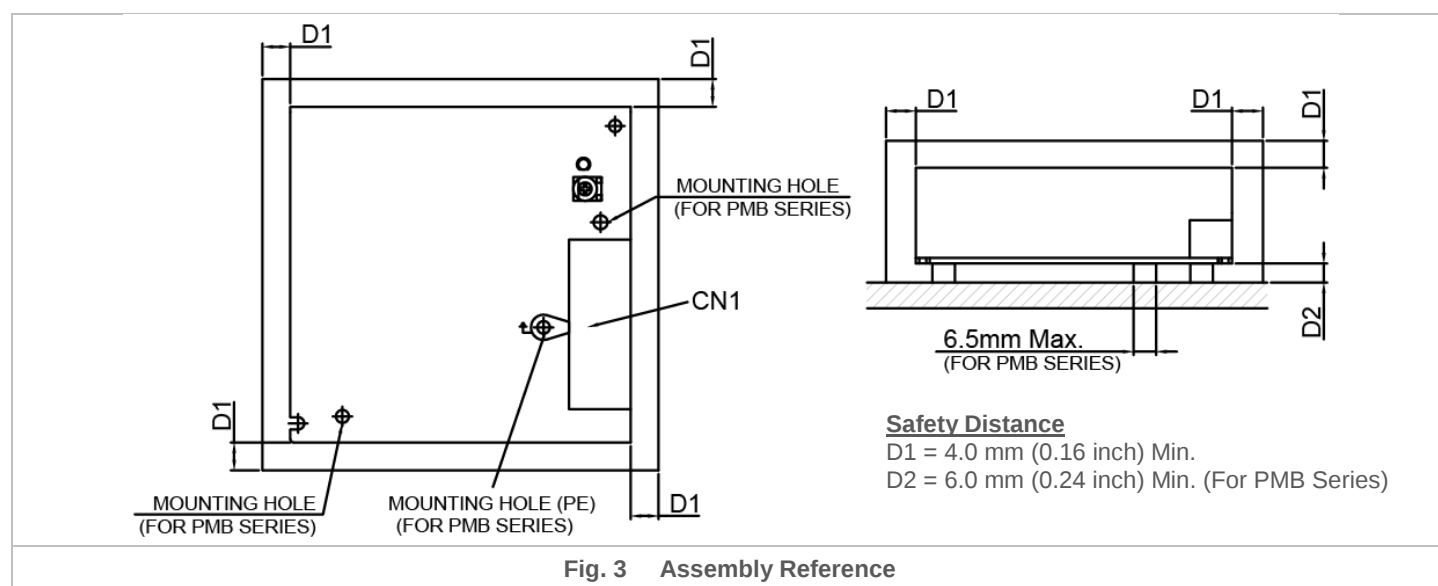

Fig. 3 Assembly Reference
- PM□-12V35W1A□□ / PM□-12V35W1AG:** Use flexible cable (stranded or solid) of AWG No. 22-12. User should calculate and select the suitable wire specification (type/quantity/diameter) according to actual output current. The torque at the Connector shall not exceed 13Kgf.cm (11.23 lbf.in). The insulation stripping length should not exceed 0.275" or 7mm (Refer to Fig. 3).
- **For PMB Series: (Refer to Fig. 3):** The mounting holes on any mounting accessories for the device should be kept at a diameter of $< 6.5\text{mm}$ (0.26 inch). This is to ensure sufficient safety distance between the mounting screw and the components around the mounting holes on the PCBA. Therefore, the diameter of the mounting screw should be kept at $< 6.5\text{mm}$ (0.26 inch).